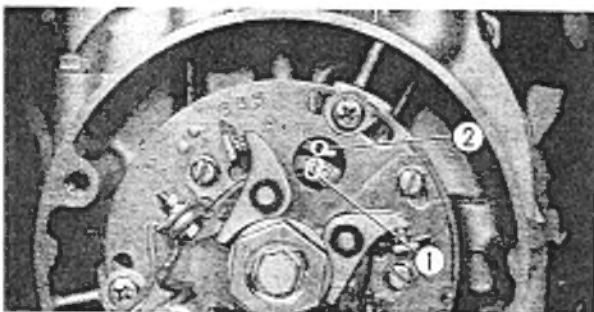

Fig. 3-21 ① "T" 1.4 mark
1. Rotate the crankshaft and align the mark "T" 1.4 on the spark advancer with the matching mark as shown in Fig. 3-21.